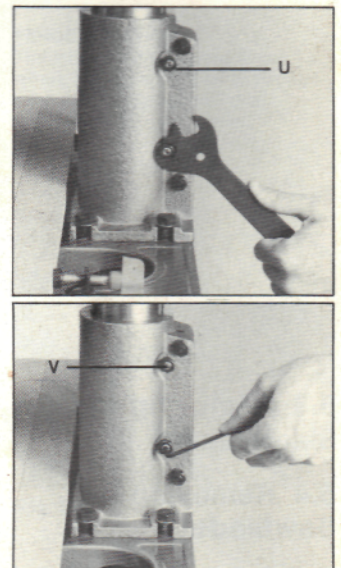

Fig. 22
- (i) Loosen the lock nuts (U in Fig. 22) on the 2 brass allen screws on the left of the base (looking from the rear) and then slacken the inner brass screws with an allen key.